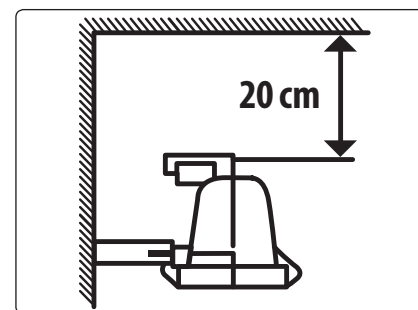

Fig. 5
- If necessary, the floodlights may be mounted on a wall. Mount the floodlight at a height of 1-3 m above the ground. The direct distance of the floodlights from the illuminated object should be at least 0.5 m. When the floodlight is mounted in a corner then it must be at least 20 cm away from the ceiling (Fig. 5).